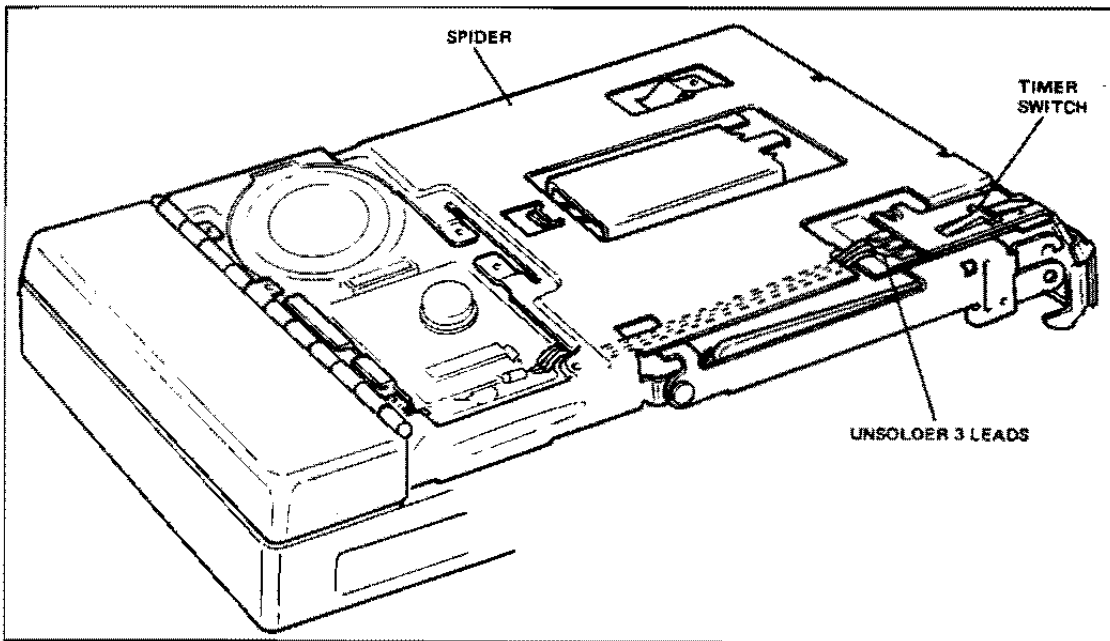

FIG. 4-7 UNSOLDERING THE SWITCH LEADS
- f. Unsolder the three black leads from the timer switch (Figure 4-7) and remove the timer assembly.
- as shown in Figure 4-7 and solder the three leads to the timer switch.